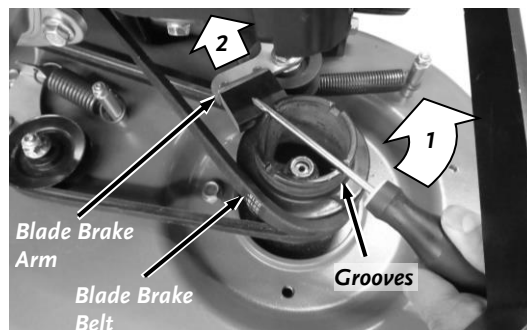

Figure 33
4. Remove the Blade Brake Belt from the Blade Pulley by rotating the Pulley with a Screwdriver (in slots) as you roll the Blade Brake Belt over the top of the Pulley (**Figure 33**).
7. Ensure the Belt stays on the Idler Pulley as you rotate the Belt onto the Deck Pulley (Figure 33).